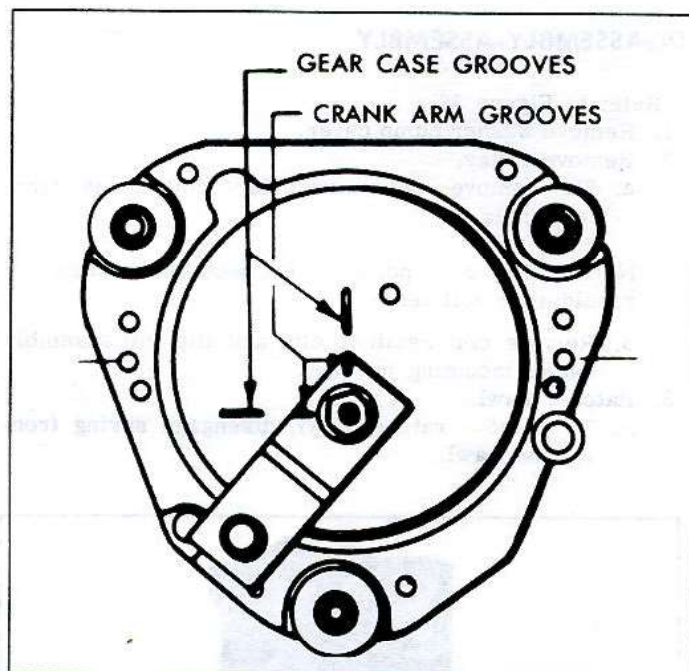

Fig. 35—Wiper Crank Arm in Park Position
2. Operate wiper to park position and install crank arm on output shaft so alignment marks line up with those on cover (fig. 35). Replace retaining nut, place crank arm in vise, tighten retaining nut.